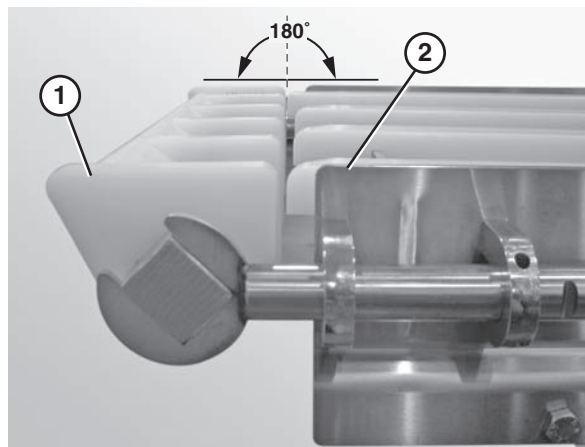

Figure 15
- Ensure that the nose bar pucks (**Figure 15, item 1**) are in line with the conveyor frame (**Figure 15, item 2**).